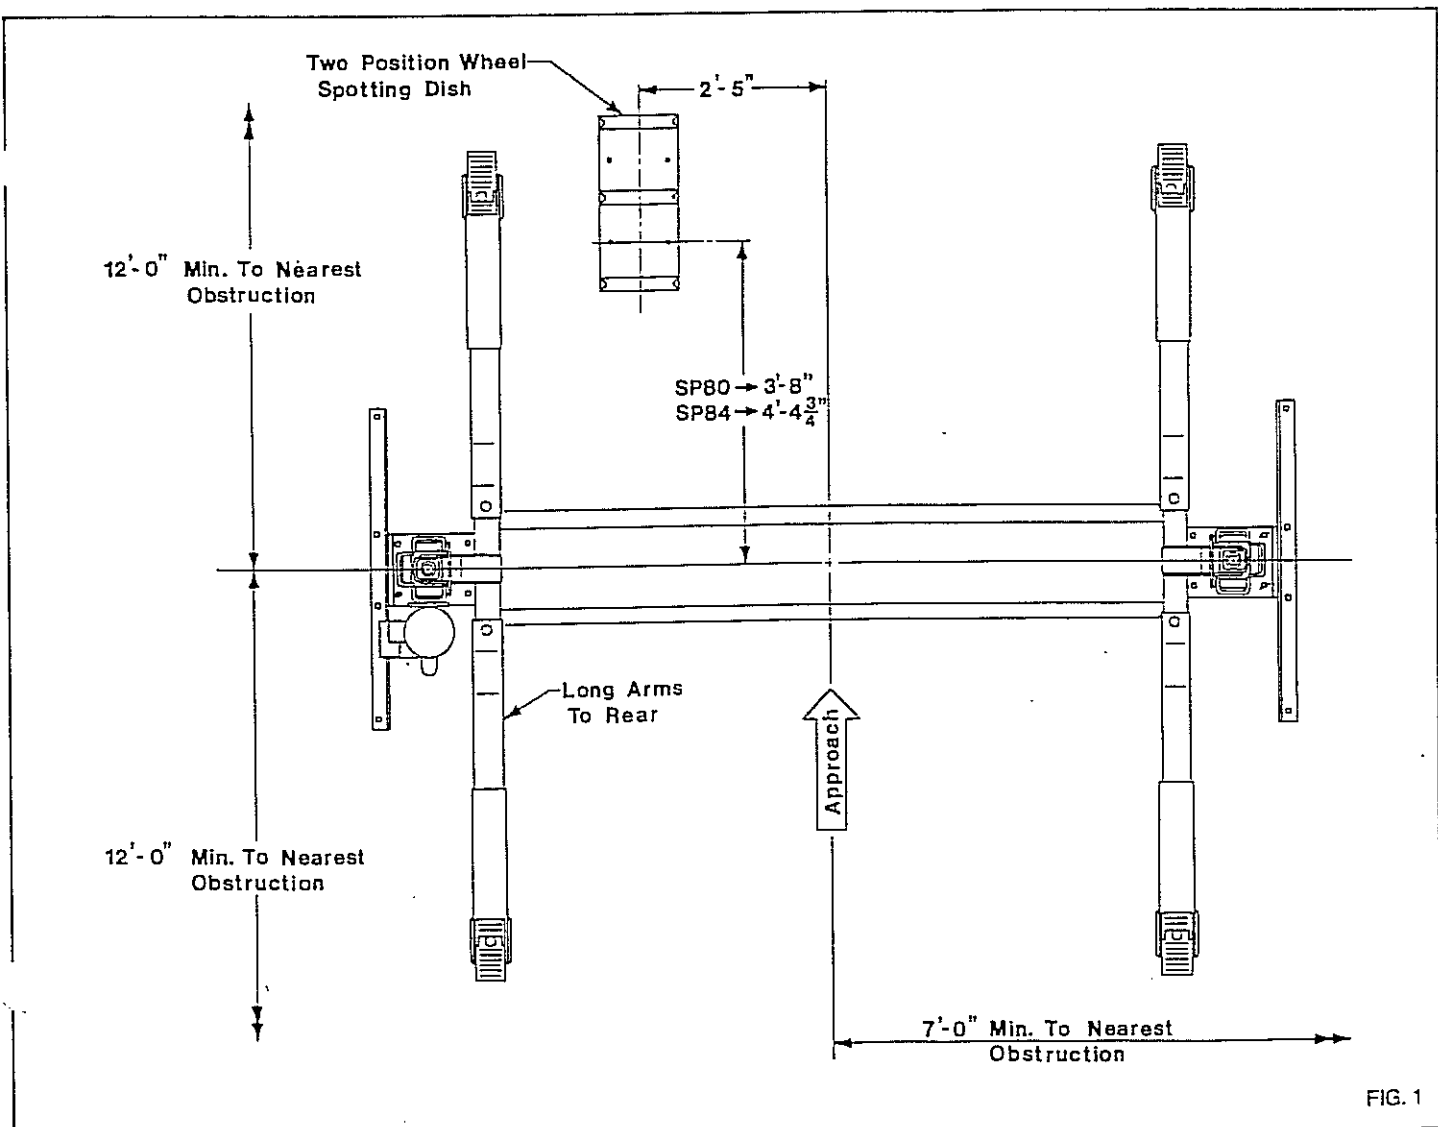

FIG. 1
1. **LIFT LOCATION:** Use architect's plan when available. Locate lift per Fig. 1 to provide adequate vehicle and working clearances.
4. **LIFT SETTING:** Remove base cover, retain bolts. Position base in bay, Figs. 1 & 2. Drill (4) 3/4" dia. holes x 4" deep in concrete floor using base holes as a guide, Figs. 2 & 3. Floor material must be 5" thick minimum and sustain 2000# anchor load.
6. **COLUMNS:** Remove shipping braces. Bolt top sheave assemblies to columns, Fig. 5. Move columns over base angles. Position columns upright. **CAUTION:** Do not damage lower sheaves. Thread (2) outside $3/4"$ x $2"$ bolts $1/2"$ into base. Select column with power unit mounting bracket to be positioned on control side of lift. See Figs. 1, 2, 3.
16. SUPERSTRUCTURE—SP84: Grease swivel arm pins and holes. Install arm and adapter assemblies. NOTE: (2) long arms go to the rear, Fig. 1.
23. Lag wheel dish to floor. See Fig. 1 for location for each model.